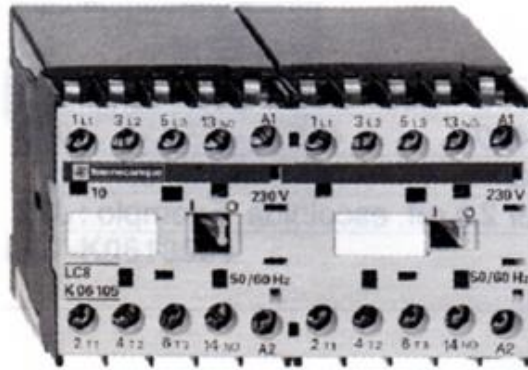

Figure 2
7. [2] Figure 2 presents a double three-pole contactor with a mechanical interlock.